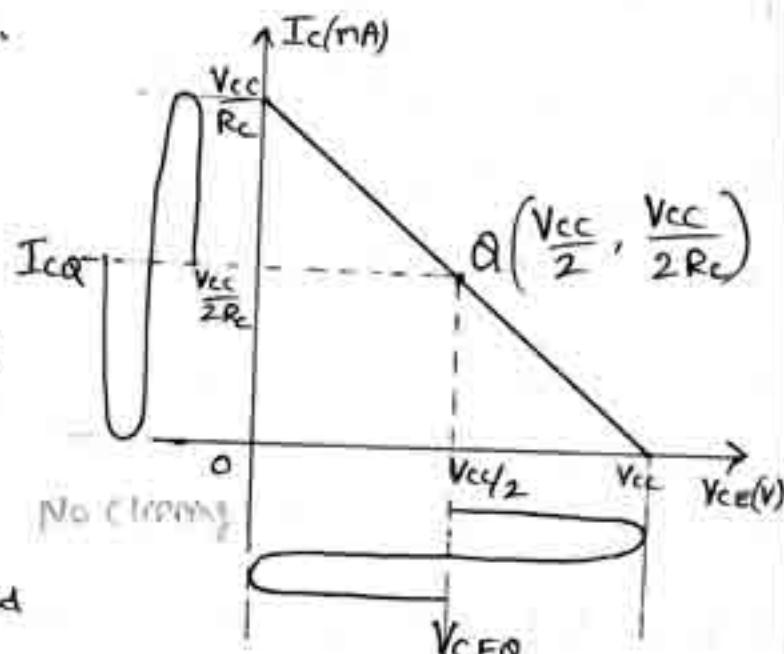

Fig 11
⑦ At the centre of the active region (Fig 11)